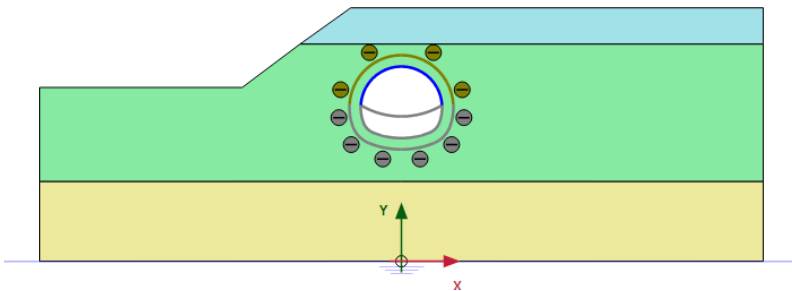

Figure 7.8 Configuration of Phase 3
- In the *Staged construction* mode deactivate the lower cluster (invert) and the temporary lining in the middle of the tunnel (Figure 7.8).